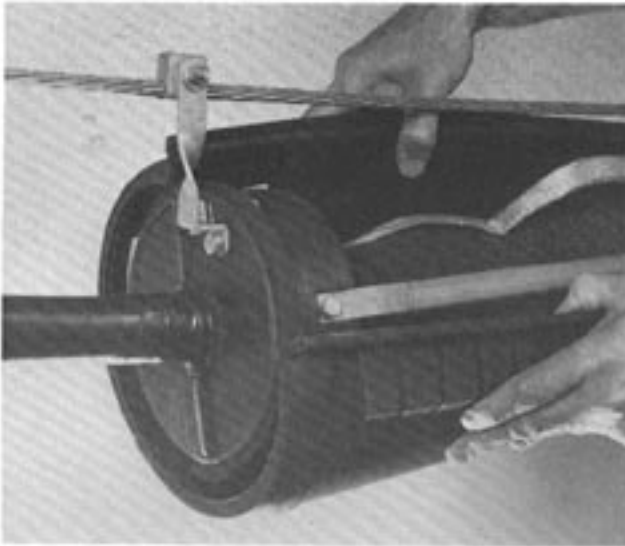

FIGURE 36 - APPLYING THE SHELL
11.04 Apply the shell over the End Plates by reaching one hand over the messenger wire and spreading the shell opening until the shell fits over the End Plates (Figure 36).